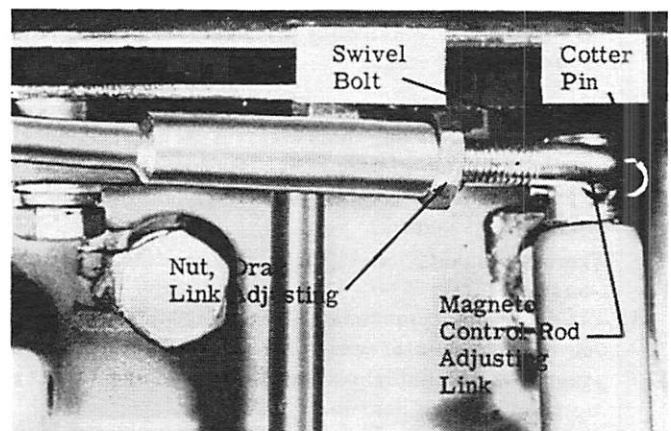

Figure 5. Maximum Neutral Adjustment
2. Adjust magneto control rod to obtain a maximum speed of 2200 to 2400 RPM. (Figure 5)